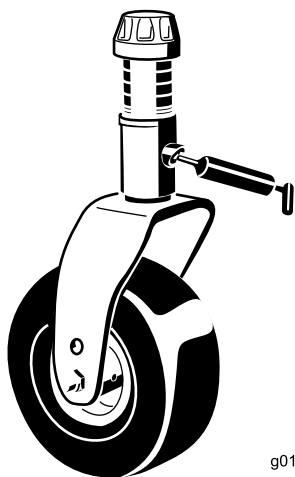

Figure 15
- Caster fork shaft bushings (4) (Figure 15)